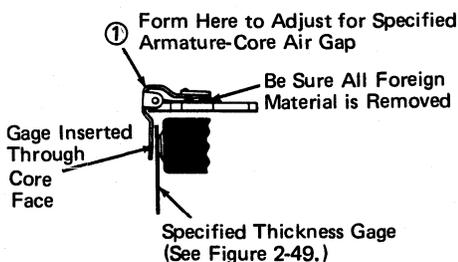

Figure 2-40. Armature Air-Gap Single Coil
4. With the armature in the fully deenergized position, insert the specified thickness gage completely through the core face to measure the gap. To adjust, form the armature at the point indicated in the illustration (Figure 2-40). The armature air-gap dimensions for double-core relays are measured between the armature and the lower core. Also, with the armature attracted, there should be .003-inch